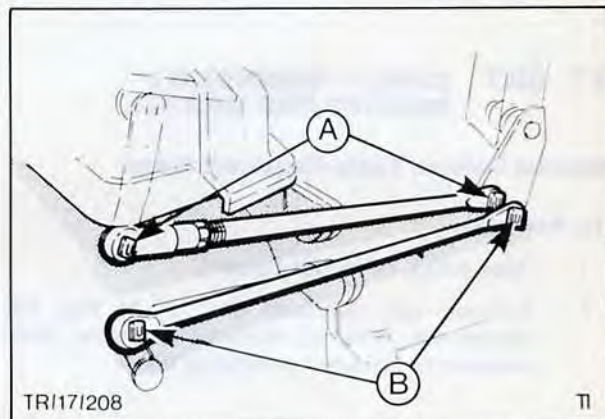

Fig. 11. Selector rod retaining clips
- Remove clips from each end of upper gear shift rod 'A' in Fig. 11. Unhook rod.
- Remove clips from each end of lower gear shift rod 'B' in Fig. 11. Unhook rod.